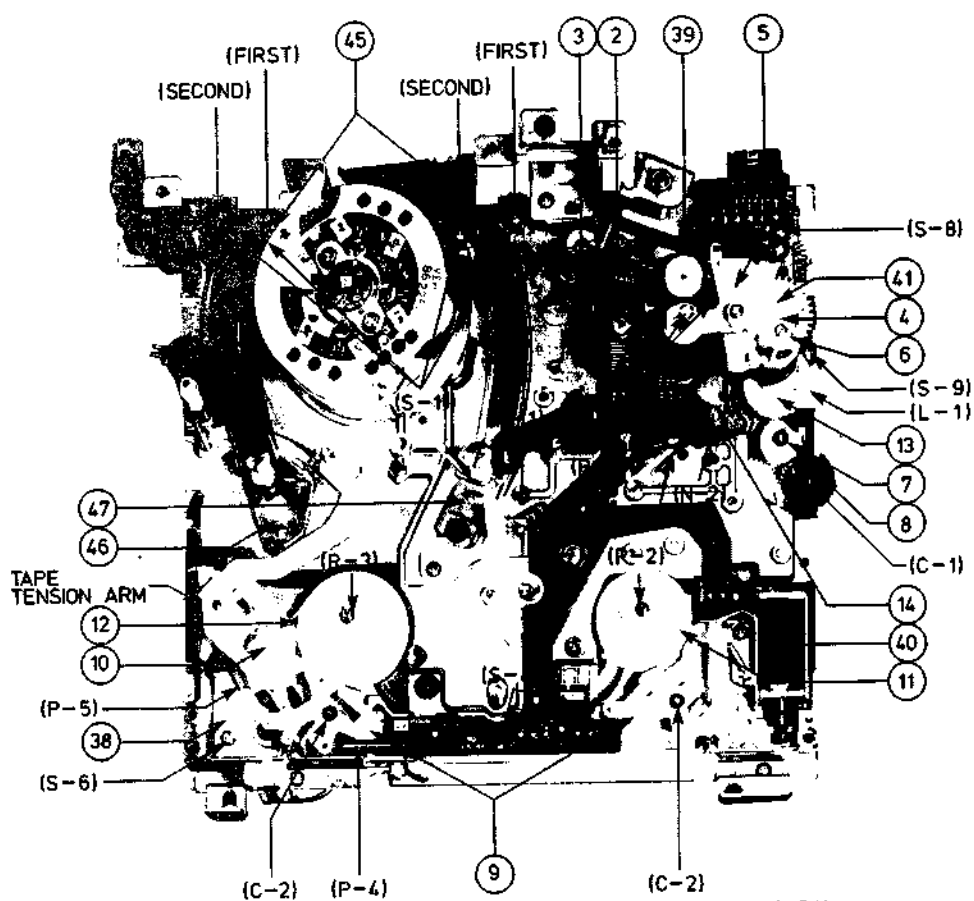

Fig. DM1
And then, tighten the screws in order indicated in the diagram. (refer to Fig. DM1)
7. Ensure the tape tension arm is positioned as shown in Fig. DM1 for STOP mode.